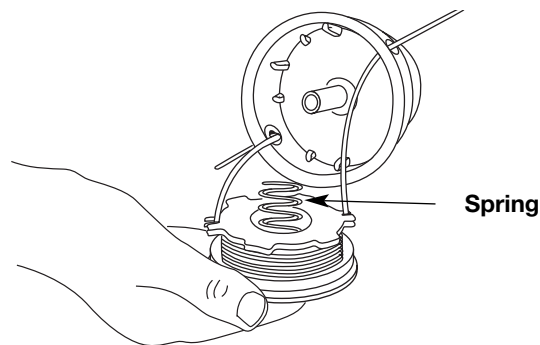

Fig. 24
- Insert the ends of the line through the eyelets in the outer spool and place inner reel with spring inside the outer spool (Fig. 24). Push the inner reel and outer spool together. While holding the inner reel and outer spool, grasp the ends and pull firmly to release the line from the holding slots in the reel.
- Insert the ends of the line through the eyelets in the outer spool (Fig. 24).